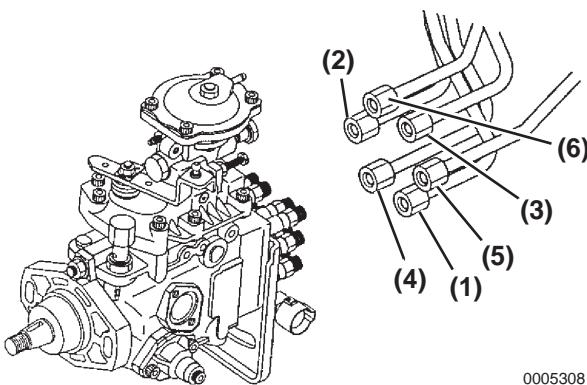

Figure 6-45
6. Tighten the union nut onto the fuel injection pump (**Figure 6-45**). Torque to: 250 kgf·cm, 24.52 N·m (18 lb·ft).